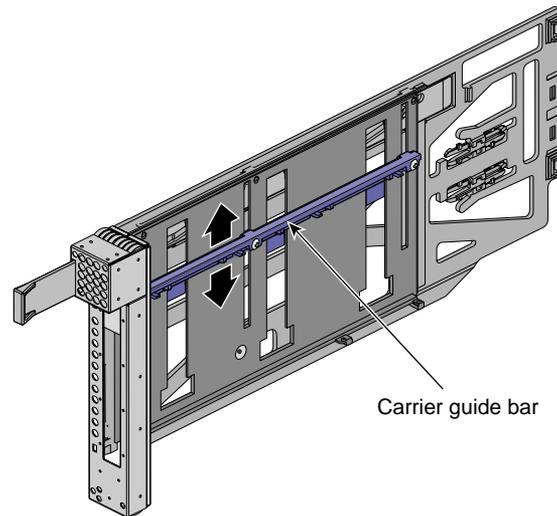

Figure 10 Adjusting the Carrier Guide Bar
4. If the card you want to install does not fit the carrier, loosen the three screws on the guide bar with a Phillips screwdriver (if your carrier uses T8 Torx screws, you will need a Torx screw driver) and adjust the carrier guide bar (also known as the alignment rail) up or down as necessary (see Figure 10).